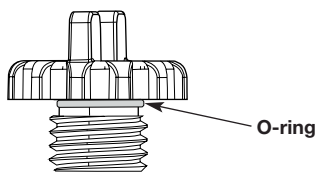

Fig. 21
5. Make sure the O-ring is in place on the oil fill plug (Fig. 21).
7. Make sure the O-ring is in place on the oil fill plug (Fig. 21).